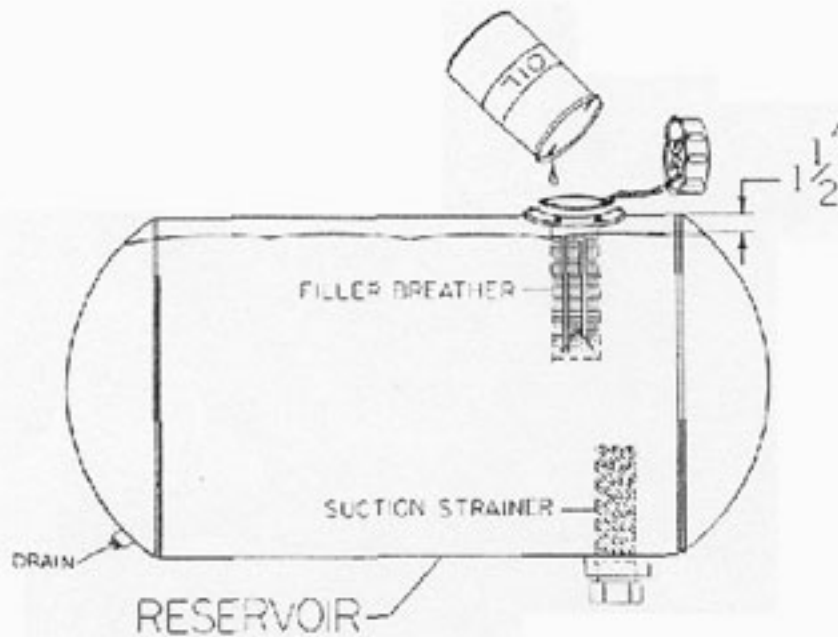

Figure 3
D. Check hydraulic reservoir level. (Figure 3)